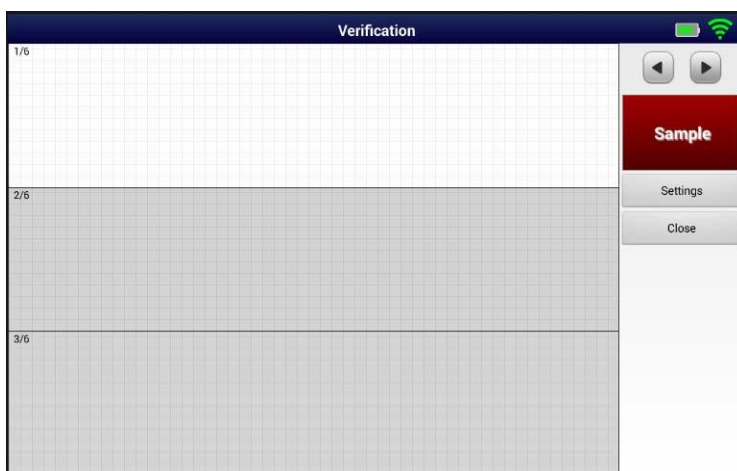

Figure4.1 Metering and verification
Run the software of Wireless Pile Dynamic Testers, and click the left upper corner of the testing interface, you will enter the software interface of metering and verification (as shown in Figure 4.1).
1. Turn on the dynamic tester. Run the software of Wireless Pile Dynamic Testers, and click the left upper corner of the testing interface, you will enter the software interface of metering and verification (as shown in Figure 4.1).